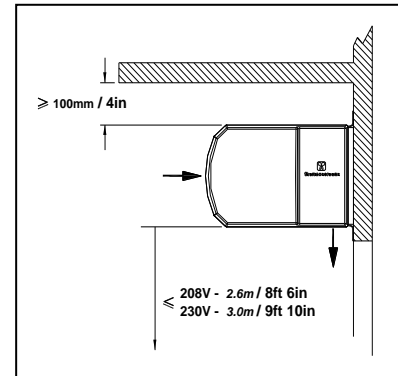

Fig 1
- the height of the discharge grille above floor level to be no more than as indicated in Fig 1
- at least  $100\text{mm}$  / 4in clearance (air gap) above electric/water heated air curtains, see Fig 1